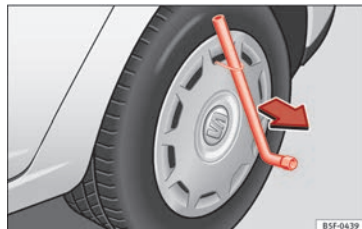

Fig. 64 Remove the wheel cover.
- Remove the wheel cover using the wire hook » Fig. 64.